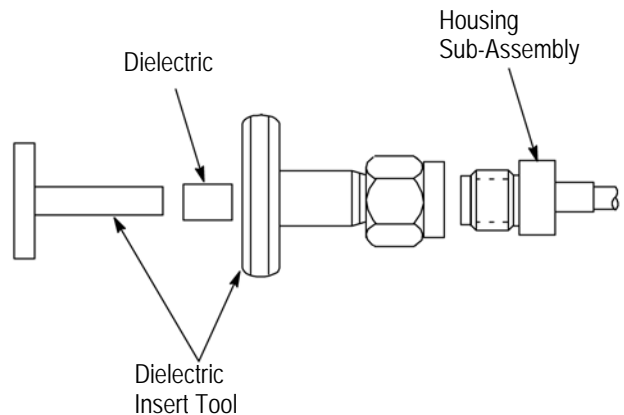

Figure 5
3.4. Pressing of Dielectric Bushing into Housing Sub-Assembly (Figure 5)